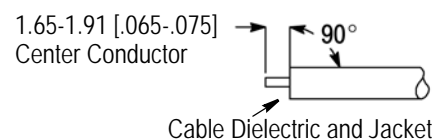

Figure 2
1. Insert the squared cable end into Hole Pattern 2 of the cable fixture subassembly. Refer to Figure 2, Detail A.
3. Pry the jacket and dielectric from the cable to expose the center conductor. Make sure that the center conductor meets the dimension shown in Figure 2, Detail B.